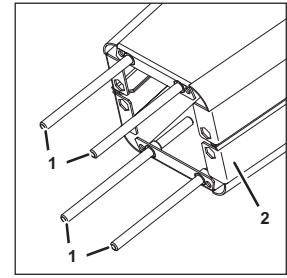

Fig. 3
1. Attach the threaded bolts (Fig. 3/1), on the stand (Fig. 3/3) of the unit, by screwing the threaded bolts into the stand (Fig. 3/3).